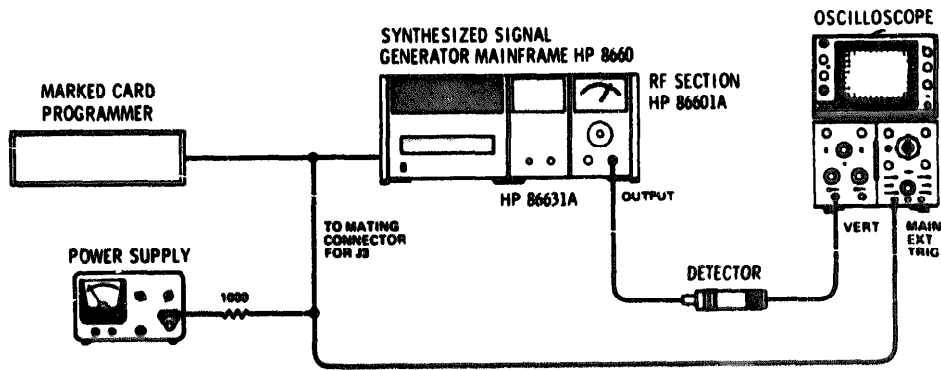

Figure 4-15. Output Level Switching Time Test Setup
1. Connect the equipment as shown in Figure 4-15. Note that the +5 V from the DC Power Supply is connected through a 1000 ohm resistor to pin 17 of the mating connector to J3 and to the External trigger input of the Oscilloscope.